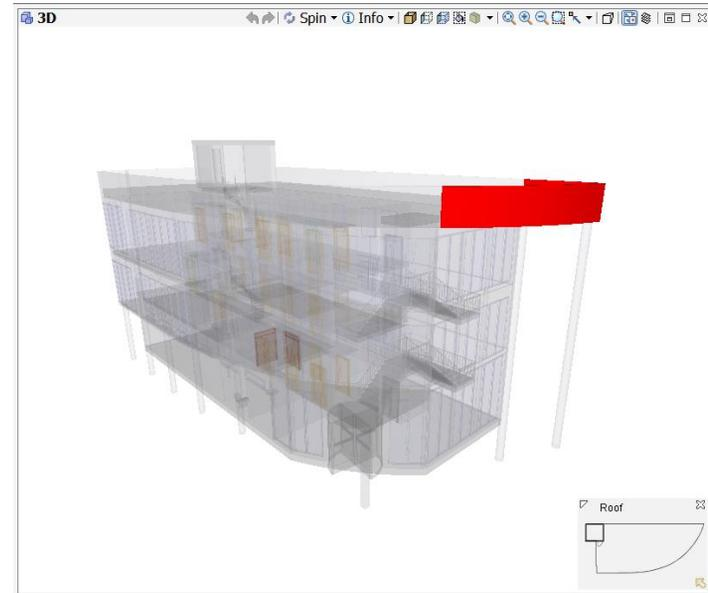

Figure 54 Transparent visualization
- (10) In case you want to visualize results differently you have several options:
- (11) **Transparent visualization**, select one of the issues or categories, and choose **Transparent** visualization in the **Results View** Toolbar. Now the components in the selected issues are highlighted (see Figure 54).